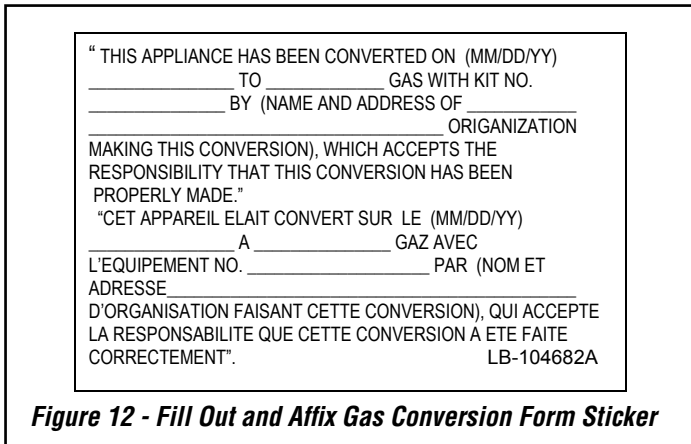

Figure 12 - Fill Out and Affix Gas Conversion Form Sticker
Step 18. Fill out, then affix the supplied gas conversion form sticker next to the rating plate. See **Figure 12**.